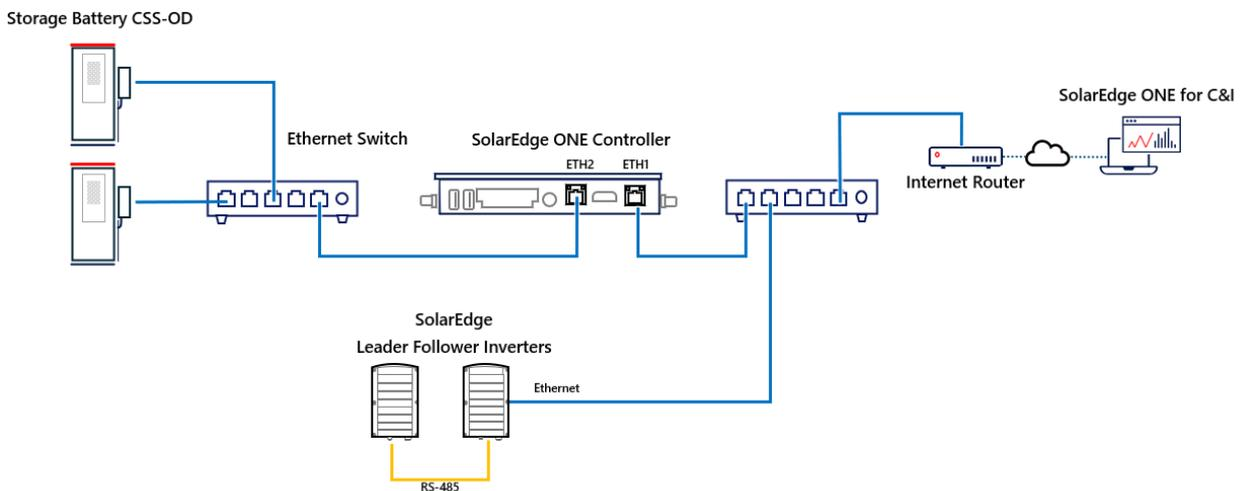

Figure 6: Connecting SolarEdge Devices to LAN
Figure 6 depicts a typical communication connectivity of SolarEdge commercial devices such as storage battery CSS-OD and SolarEdge Inverters.
2. Using LAN cables, connect the available LAN ports (see Figure 6) to each storage CSS-OD device and to LAN port labeled ETH2 on the ONE Controller.